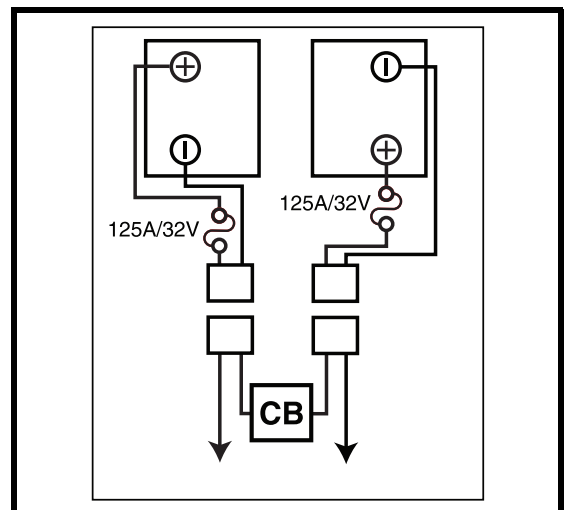

Figure 12. Battery Wiring Diagram
6. Place a new battery in each battery well. Face the battery terminals of each battery opposite each other and toward the outer sides of the scooter. See figure 12.